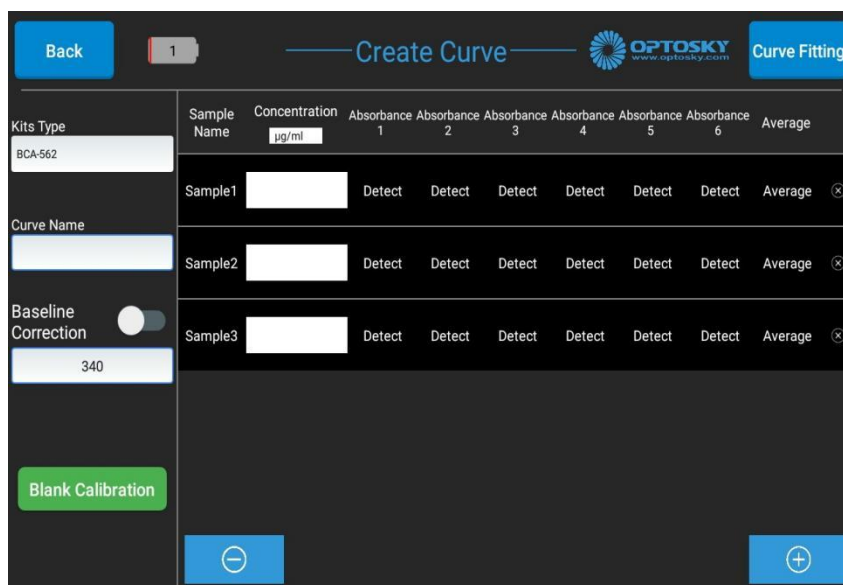

Figure 11: Standard curve creation interface
2. Then click  Enter the standard curve establishment interface as shown in FIG. 11.